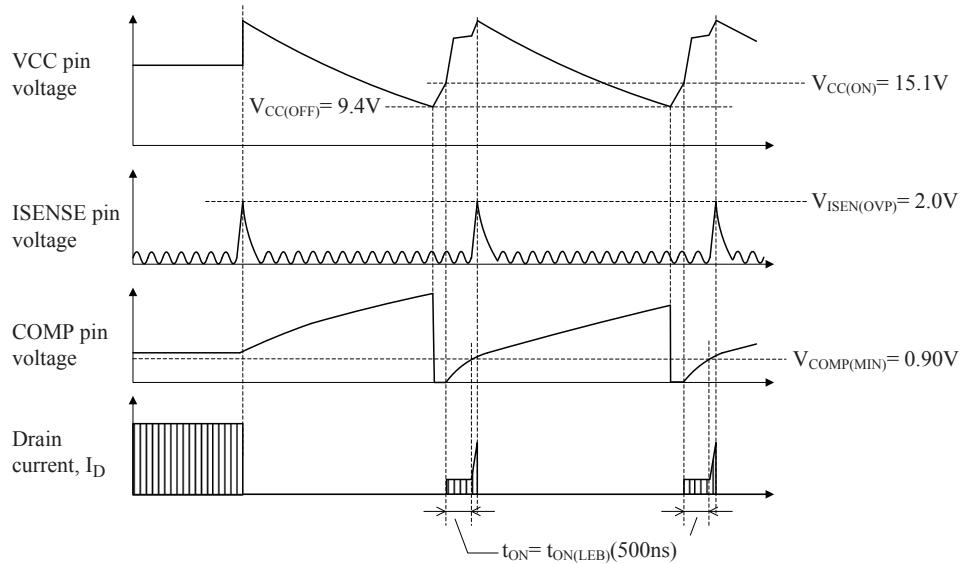

Figure 36. Waveforms when ISENSE pin OVP is being activated (LC551xD)
- ISENSE Pin Overvoltage Protection. Figure 36 shows the ISENSE pin OVP operation. When the ISENSE pin voltage with reference to the S/GND pin reaches and exceeds $V_{ISEN(OVP)} = 2.0$ V or more, OVP is activated.